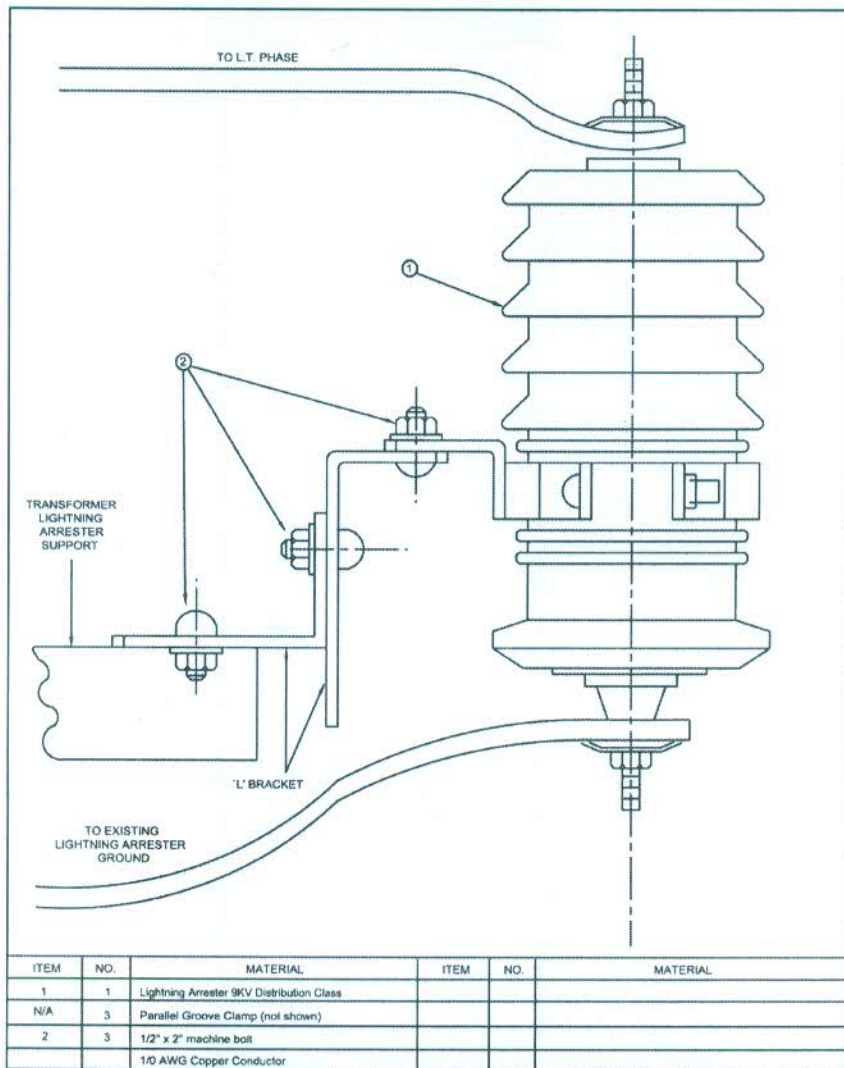

Figure 5-1
- *** NOTE - If an LT lightning arrester is not readily available, one 9 KV distribution lightning arresters may be installed as per Figure 5-1. Within a maximum of 7 (seven) days, the proper size station class lightning arrester must be installed.